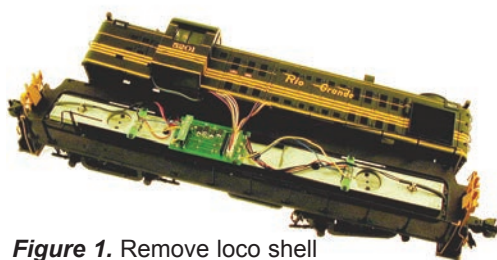

Figure 1. Remove loco shell
1. Remove the locomotive shell (**Figure 1**) being careful not to disconnect any of the existing wiring.